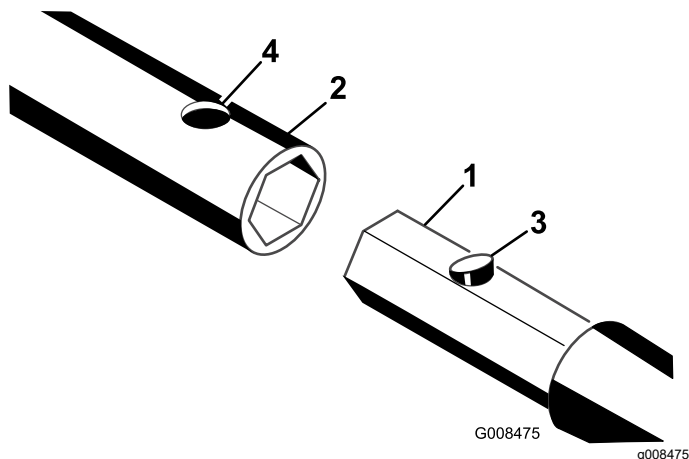

Figure 25
3. Slide the hex shaft of a rod, boring bit, or reamer into the socket. Align the hole in the socket with the push-button connector (Figure 25).
4. Press down the push-button connector and push the shaft into the socket until the connector snaps into the hole in the socket (Figure 25).